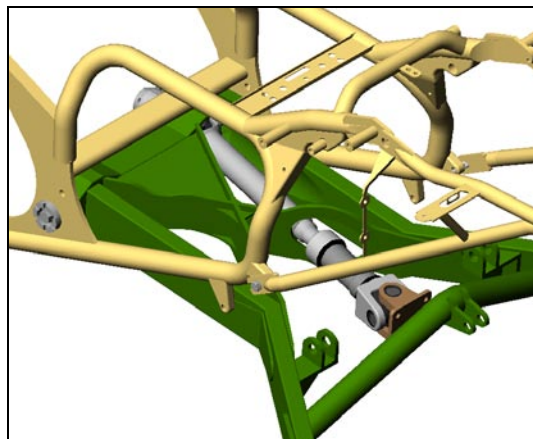

Figure 20
- a. Position Drive Shaft through Swing Arm onto output shaft of vehicle transmission. Do not tighten pinch bolts until rear end assembly has been installed. Figure 20